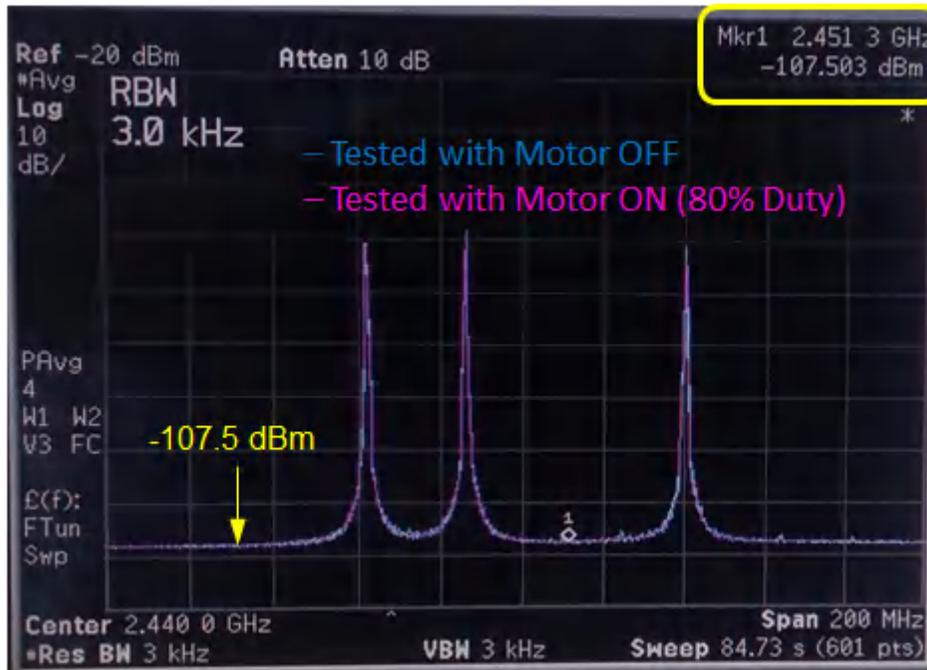

Figure 3. Reference Design Transmitter Performance, with the SimpleLink CC2640R2F Wireless MCU in Advertising Mode
Figure 3 shows typical transmitter performance of the reference design in three-channel advertising mode. The noise floor is at -107.5dBm. The plots show that transmitter (TX) power spectrum when the motor drive is ON matches with the transmitter power spectrum when the motor drive is OFF.